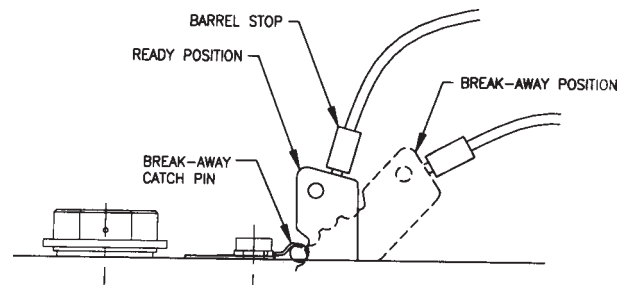

Figure S12: Break-away Cable
8. Make sure the break-away lever is fully rotated to the rear with the break-away catch pin securely located under the break-away spring. The break-away catch pin will be in the lever's uppermost notch. See Figure S12.